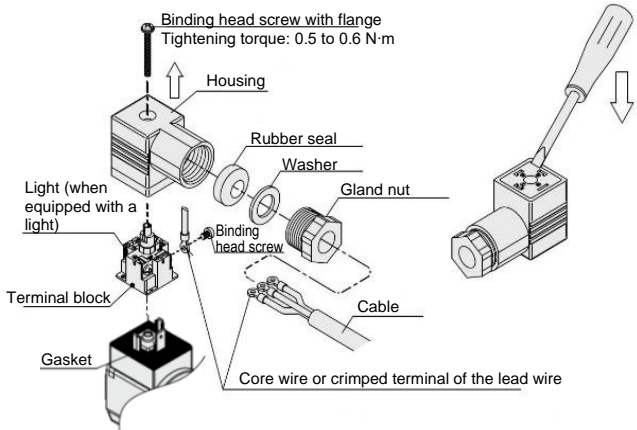

Figure 4. DIN connector construction
- Do not bend the lead wires beyond 90° with a radius of less than 20mm or damage may occur. See figure 4.